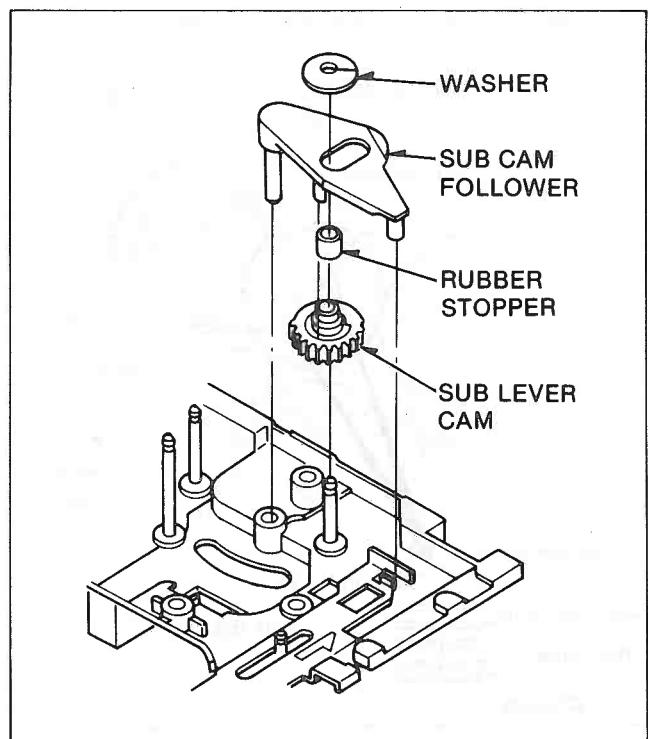

Figure M53
1. Install the SUB LEVER CAM RUBBER STOPPER, SUB CAM FOLLOWER and washer as shown in Figure M53.